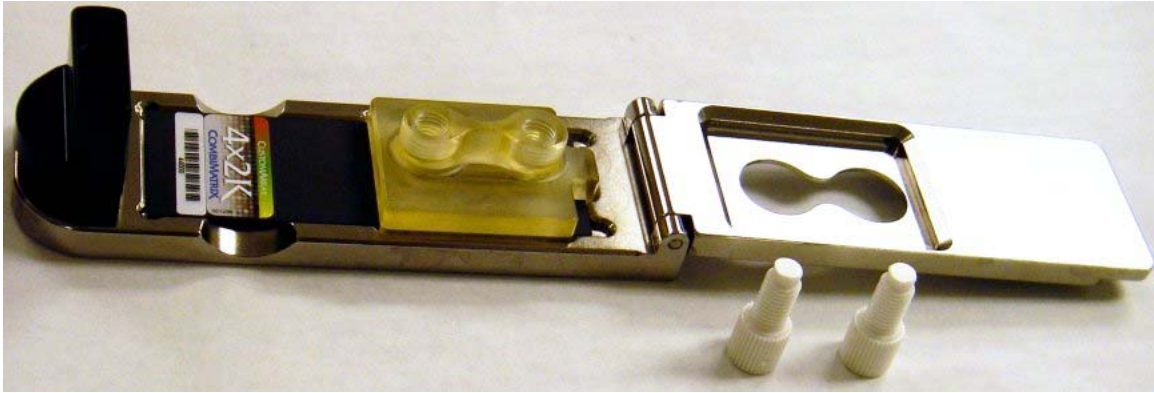

Figure 2. Position of the Stripping Cap over the microarray in the CustomArray™ Stripping Clamp.
6. Position the Stripping Cap with the gasket-side down over the microarray, so that it covers the semiconductor array area. The arm of the Stripping Cap should fit into the stop in the stripping clamp (see Figure 2).